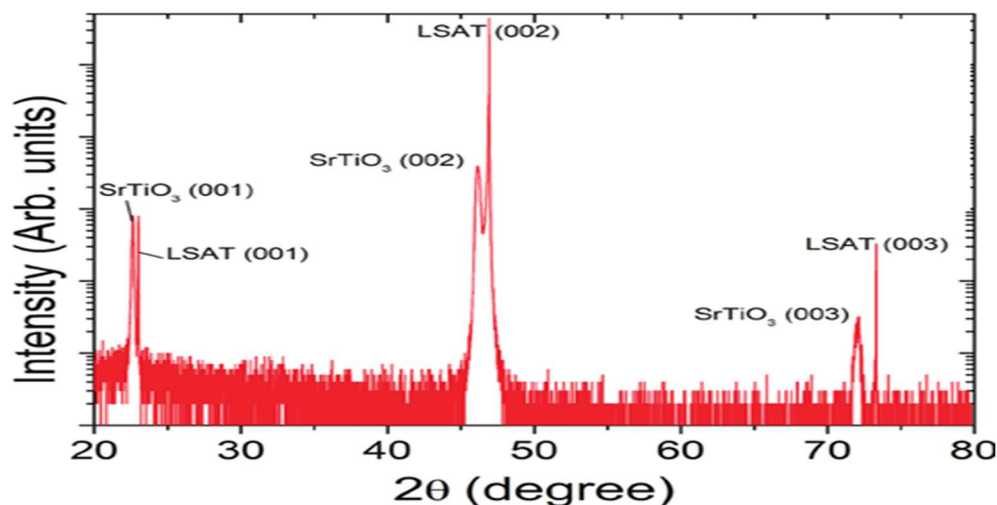
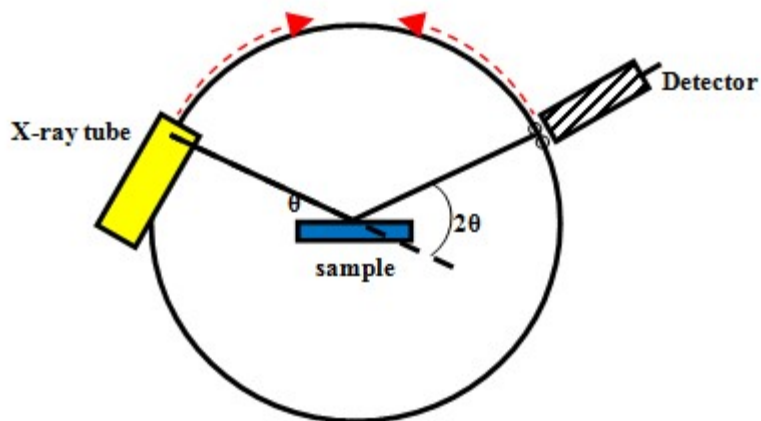

Figure 33: XRD of thin film on a substrate
Figure 34: Bragg-Brentano geometry of XRD, common for single crystalline films
A sharp eye might notice that all of the peaks in Figure 33 have similar indices: 001, 002 and 003. The second two are the higher order ($n=2$ and 3) of the (001) planes. Why don't the others show up? They might not show up anyway, but this particular measurement was done in a different way. Previously, we only rotated the detector. Now we are going to rotate the sample and the detector such that the reflection angle is the same, as shown in Figure 34. This is known as the Bragg-Brentano geometry and will only show the sets of planes that are perpendicular to the sample surface, so most sets of planes will not show up. This is helpful if you want to know what that perpendicular orientation is or if you are only interested in the lattice parameters of the film—perhaps you already know the lattice type from similar prior samples.
The sample in Figure 33 does not have any but there are other things that can complicate the diffraction pattern. Materials do not always grow how you expect them to. Even if you are trying to grow all one material, sometimes other materials form as well, known as **secondary phases**. To provide an example, I will show some samples grown by NASA. These are not magnetic samples, but rather superconducting samples.